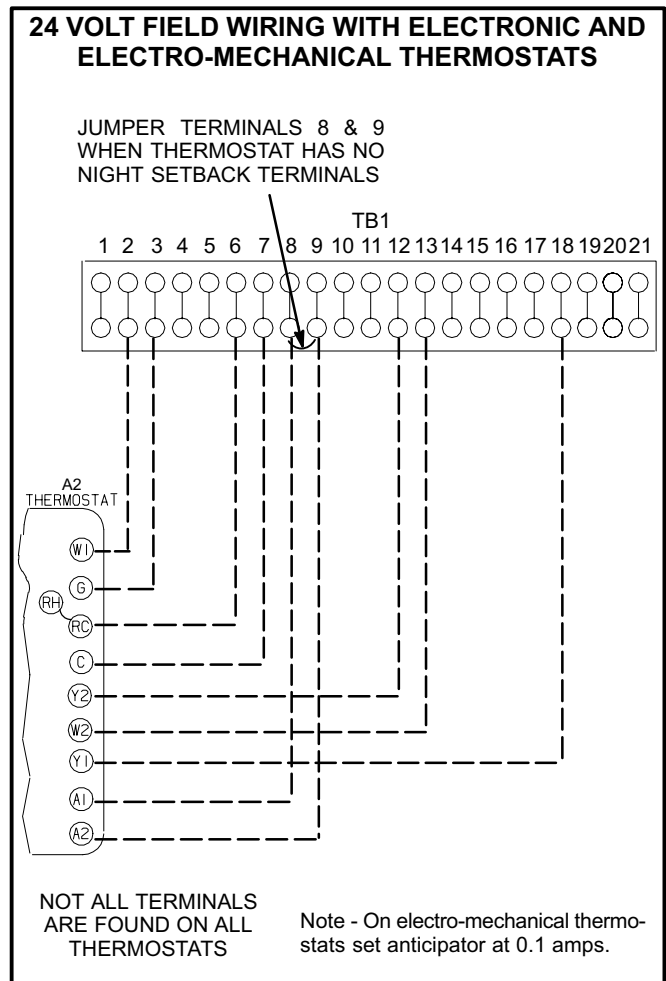

FIGURE 10
- 2- Install thermostat assembly in accordance with instructions provided with thermostat. See figure 10 for field wiring electronic and electro-mechanical thermostats. If using other temperature control devices or energy management systems see instructions and wiring diagram provided by manufacturer.